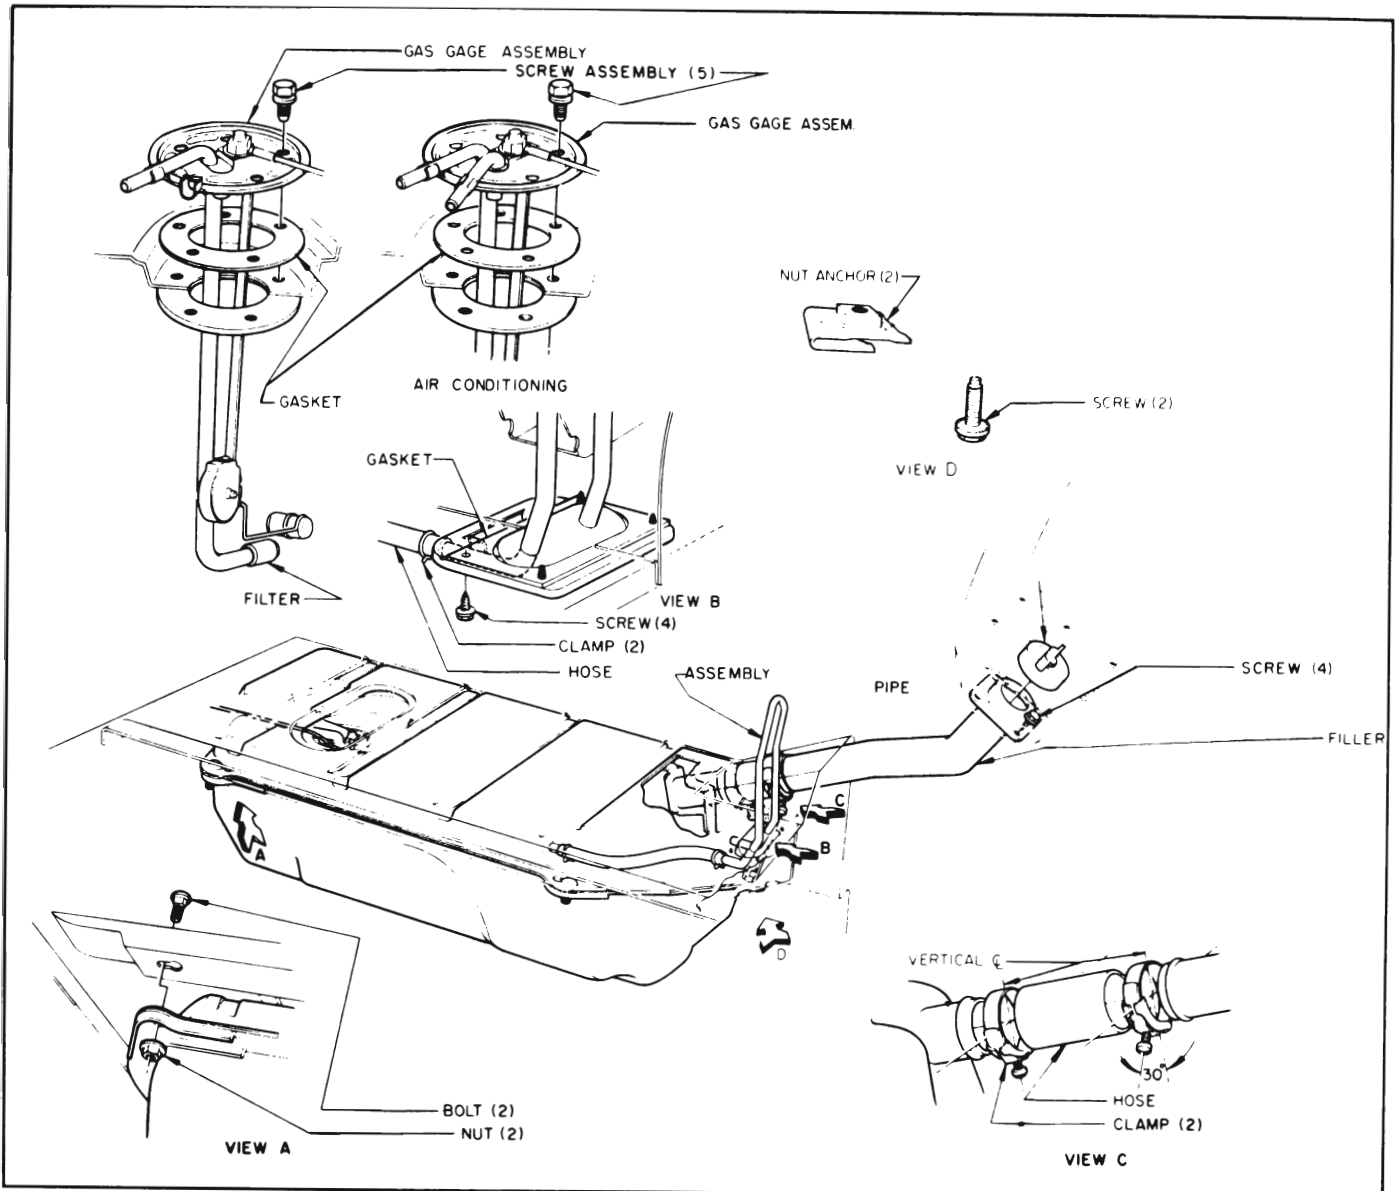

Figure 3-11—Gas Tank Assembly (Except Estate Wagons)
6. Disconnect tank filler by sliding hose upward on filler pipe until clear of gas tank. See Figure 3-11.